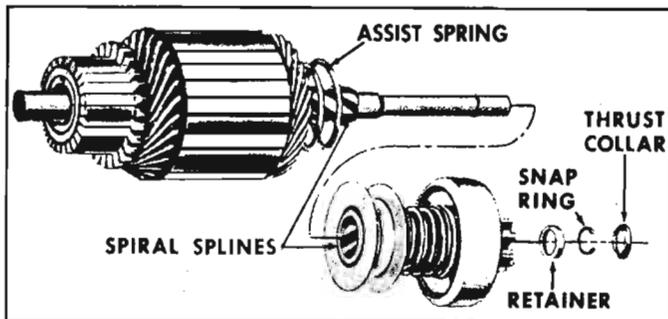

Fig. 8-41—Exploded View of Armature and Overrunning Clutch Assembly
- a. Slide thrust collar (fig. 8-41) off end of armature shaft.
- b. Slide clutch assembly onto armature shaft with pinion outward (fig. 8-41).
- e. Assemble thrust collar on shaft with shoulder next to snap ring (fig. 8-41).